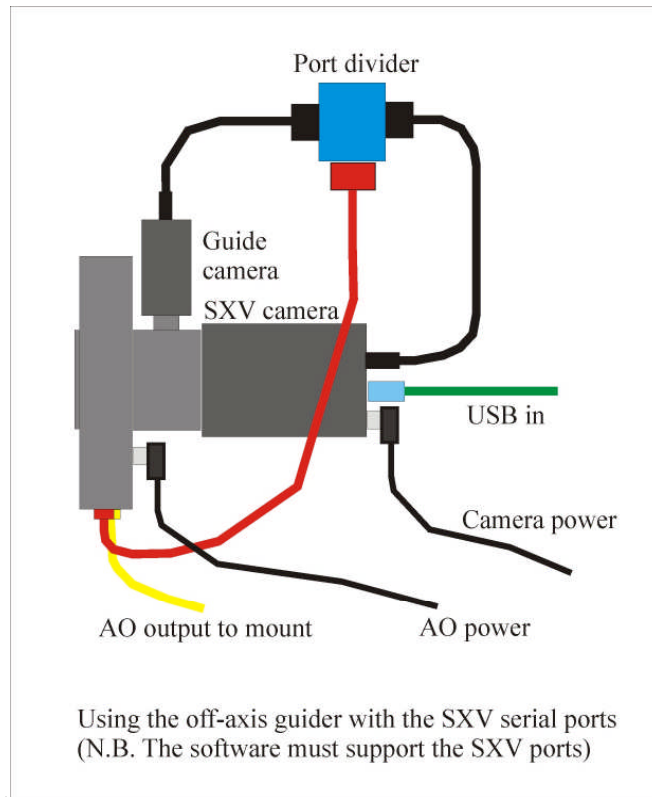

Fig 1
- 3) Connect the guide camera to the socket on the SXV imaging camera, or the socket on the SXV interface box (used with older parallel port imaging cameras, or when imaging with other makes of camera). Include the port divider box in this cable, if you intend to use this for serial control (Fig 1).